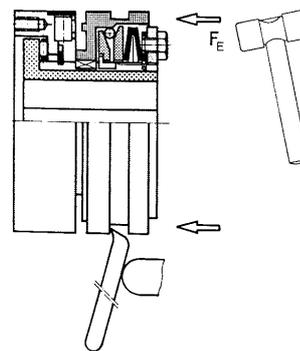

Fig. 2
In contrast to the EAS[®]-synchronous/overload clutch, re-engagement can take place in any position. Slight turning between the control element (3) and the pressure flange (2) may be necessary. The EAS[®]-clutch is re-engaged by applying axial pressure onto the control element (3) (Fig. 2).
- Manually, e.g. using a plastic hammer or installation levers (Fig. 2).